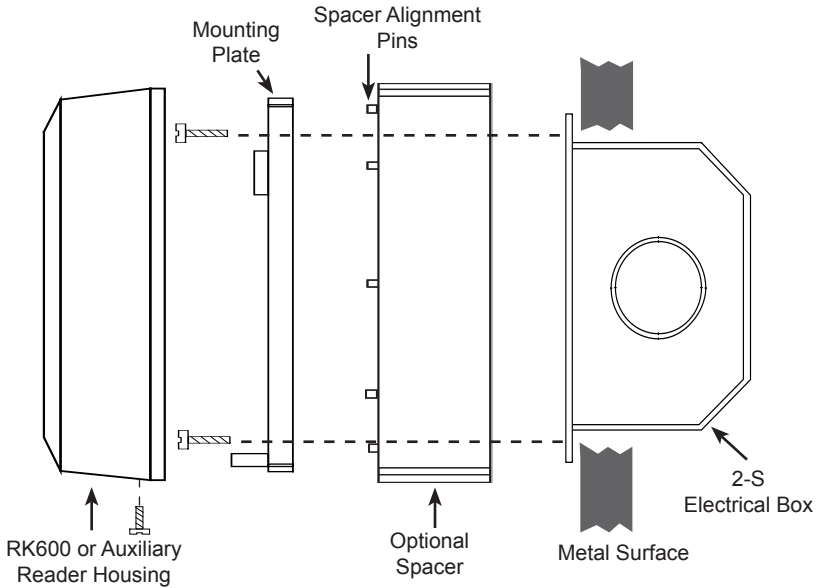

Figure 5 - Wall Mounting on Metal Surface with Optional Spacer
When mounting the unit on metal, install the optional Back Box /Spacer (Figure 5) between the mounting plate and the mounting surface to minimize the loss of reading distance caused by the metal. The spacer can also be used on non-metallic surfaces to provide additional room for wiring connections.
- a. If using the optional spacer, insert spacer alignment pins into corresponding holes on the back of the mounting plate, then install both parts so that the spacer is closest to the wall or mounting surface (Figure 5).